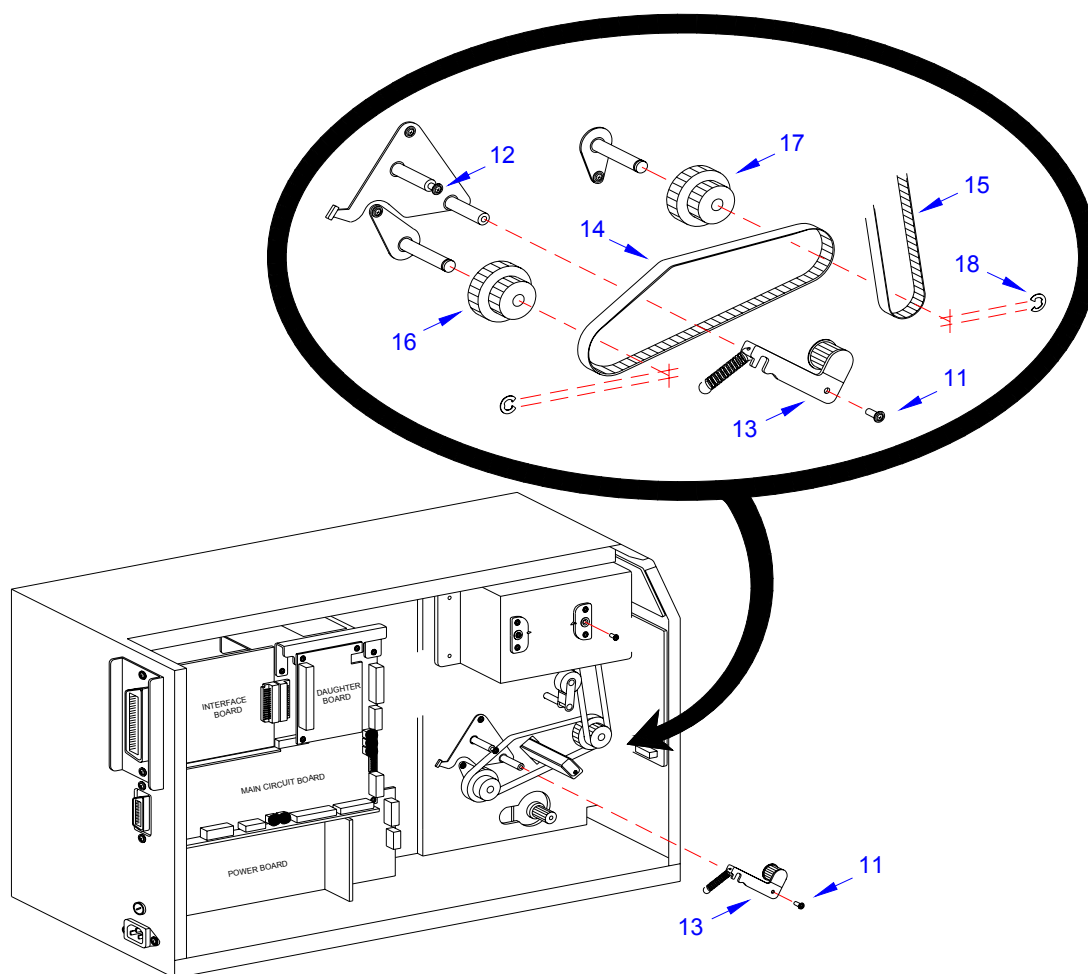

Figure 7-12c, Platen Roller Belt Replacement
- 7 Remove screw (11, Figure 7-12c) and loosen screw (12) to free pulley tension bracket (13).
- 8 Remove platen roller belt (14) and ribbon rewind belt (15) from feed roller pulley (16) and platen roller pulley (17) respectively.